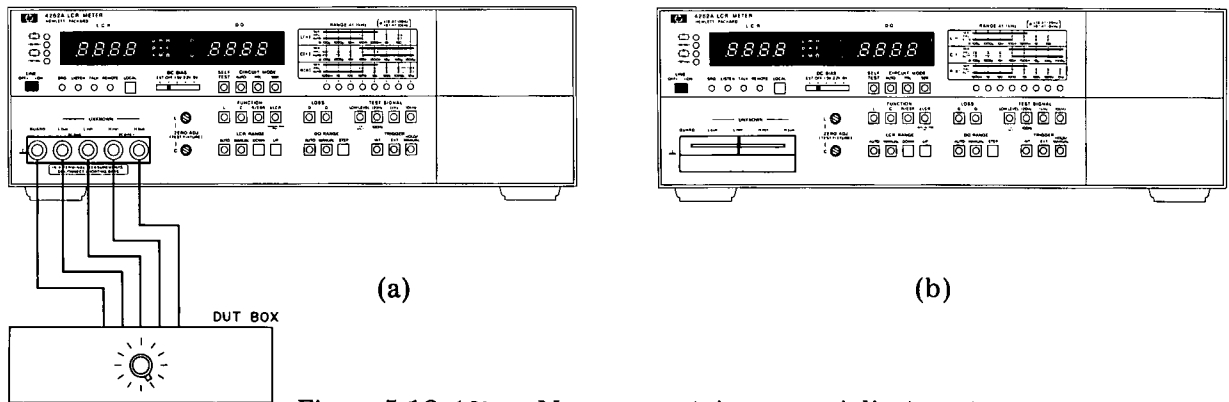

Figure 5-12. 10kHz Measurement Accuracy Adjustment.
(1) A13C1 Adjustment.
a. Connect Test Leads (HP P/N 16361-61605) between 4262A UNKNOWN terminals and 16362A DUT Box as shown in Figure 5-12 (a). If DUT Box is not available, attach 16061A Test Fixture to 4262A UNKNOWN terminals [see Figure 5-12 (b)].
- g. Remove 16061A from 4262A UNKNOWN terminals and connect Test Leads (HP P/N: 16361-61605) between 4262A UNKNOWN terminals and 16362A DUT Box as shown in Figure 5-12 (a).